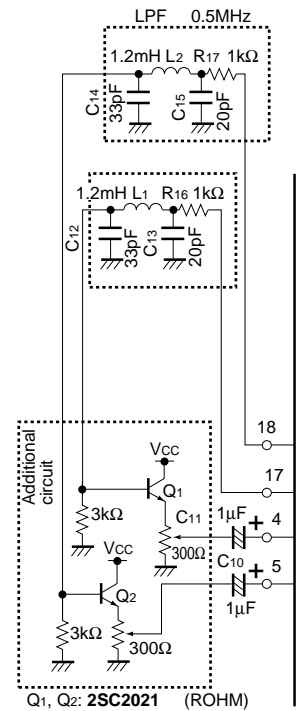

Fig. 15
- (3) The VCXO remains in a free-running state except during superimposition.
- (4) Pin 4 (B-YIN) and pin 5 (R-YIN) have high impedance and are susceptible to the effects of noise and other external factors during pattern generation. For this reason, we recommend adding the circuit in Fig. 15 to lower the input impedance. Adding this circuit can also reduce carrier leakage.